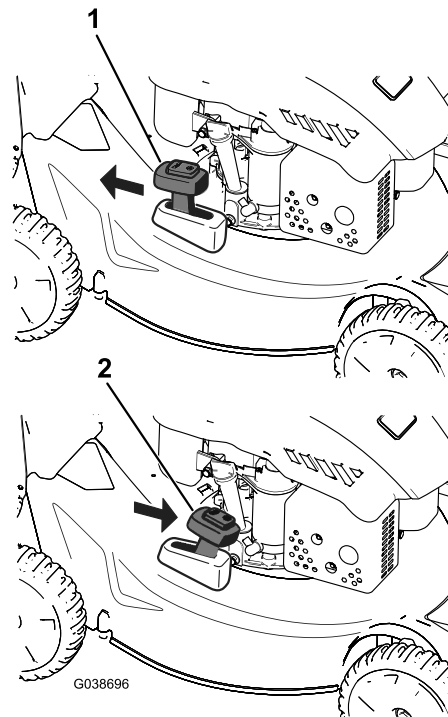

Figure 21
To recycle the clippings, move the bag-on-demand lever to the **recycling** mode (Figure 21).
3. Move the bag-on-demand lever to the bagging mode as shown in Figure 21.
Note: If the grass bag is on the machine, remove it before rear-discharging the clippings; refer to Removing the Grass Bag \(page 13\). The bag-on-demand lever should be in the **bagging** mode as shown in Figure 21.